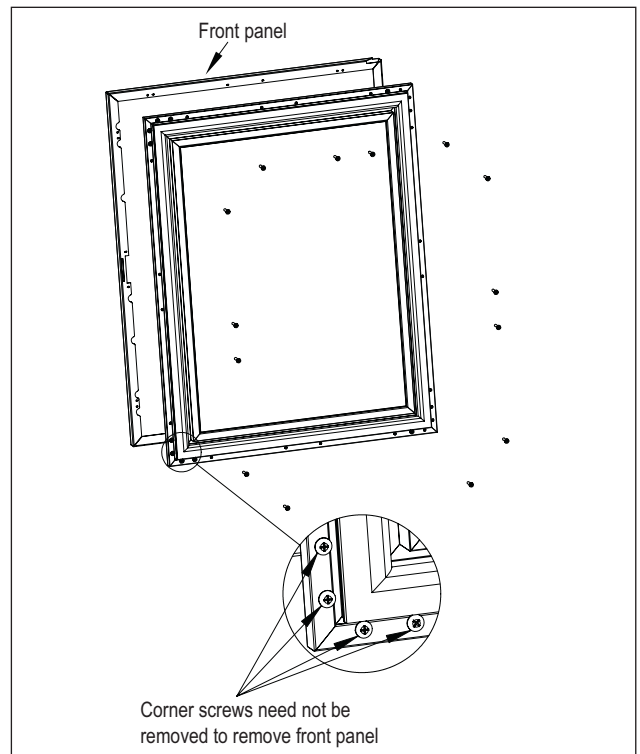

Figure 7. Removing Front Panel
- Remove the front panel from the door assembly by removing the inner mounting screws, 4 per side, from the perimeter of the door assembly (Figure 7). Rotate the front panel 180°. The top becomes the bottom. Reattach using the same screws and mounting holes.